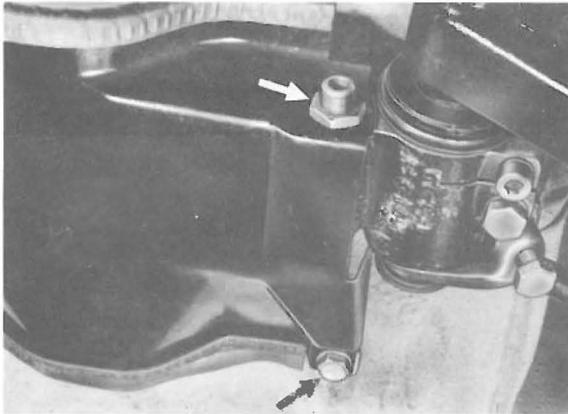

Fig. 69
3. Install crossmember reinforcing brace without binding. Torque hex nuts to 6, 5 mkp (47 lb/ft), and hex bolts to 4, 7 mkp (34 lb/ft), (see Fig. 69).